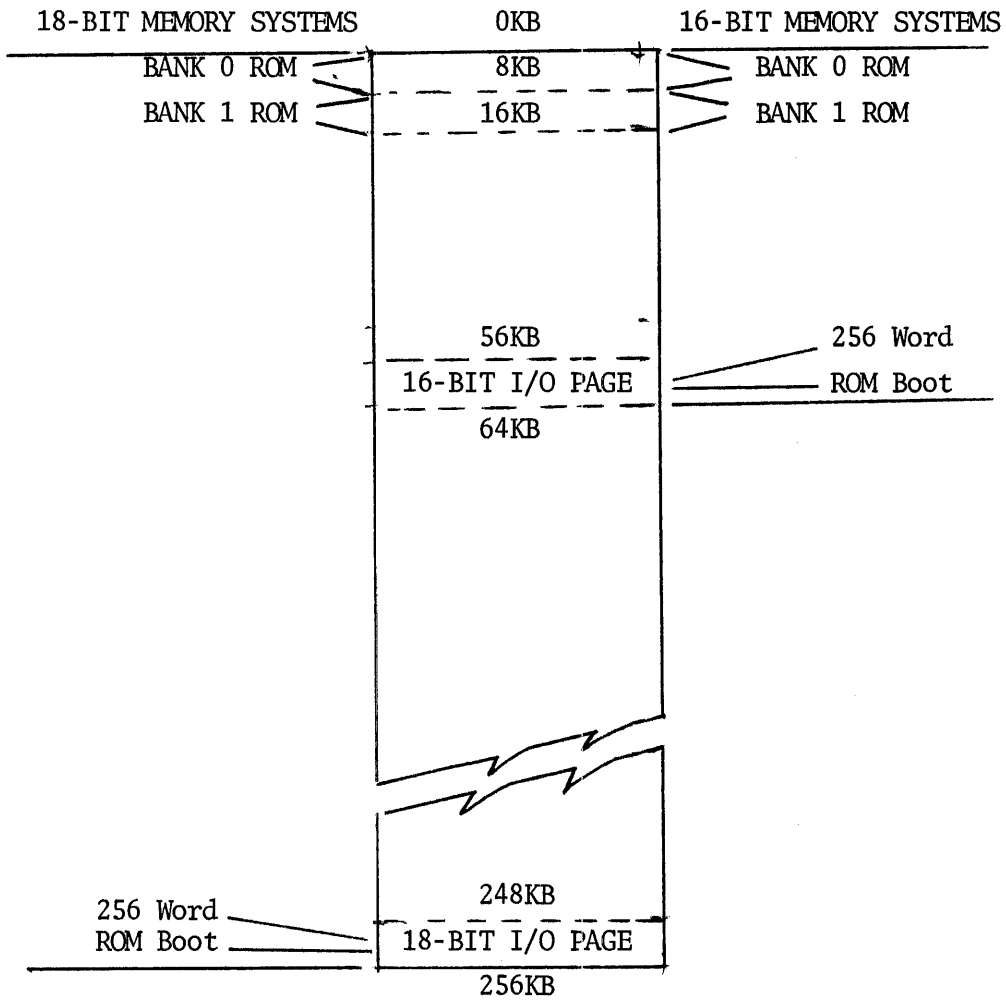

FIGURE 2 -- MXV11-AA, -AC ROM ADDRESSING RANGES
2. The ROM area of the MXV11-AA or -AC can be configured to operate in bank 0 (0-8KB), 1 (8KB-16KB), or the I/O page (see Figure 2). If bank 0 or 1 is selected, then the customer can use his own 1Kx8, 2Kx8 or 4Kx8 ROMs, and the ROMs can be either fusible link PROMs, ultra-violet erasible EPROMs, or masked ROMs (see Micro Note #51).